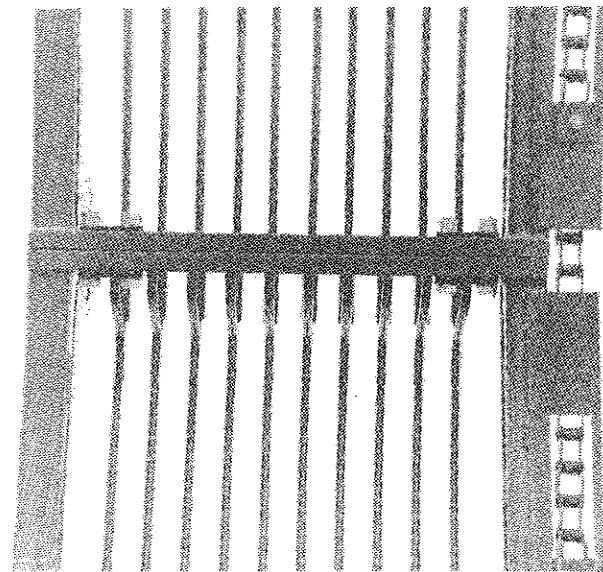
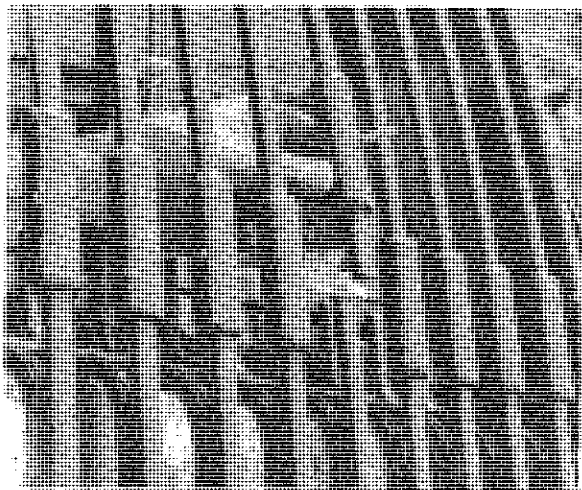

FIGURE 54 - WHEEL ELEVATOR JOINT
FIGURE 55 - ROD CONNECTOR INSTALLATION
Attach the two (2) wheel halves together with eight (8)  $\frac{5}{8}$ " x 3  $\frac{1}{2}$ " bolts and eight (8) rocker straps, **flat side towards nuts and bolt heads**. Make sure the side tabs interlock properly (four places) where the halves join (see figure 54).
**IMPORTANT:** Make sure the rail that rides on the rollers is aligned end to end when bolting the halves together. Use C-clamps or similar device to align the rails (see figure 54). It may be necessary to grind rail ends to insure alignment of halves.
**NOTE:** Use a punch to align the holes at one joint first, then loosely insert two (2) bolts, straps and jam nuts. Then use a punch to align the other joint holes and insert hardware.
halves as shown (see figure 55). Free the wheel and turn it manually through several revolutions to make sure nothing is interfering with it. Adjust the right-hand rollers so they are about  $\frac{1}{8}$ " away from the drive band of the wheel elevator at its closest point. Install tabs in chain slots (see figure 54).